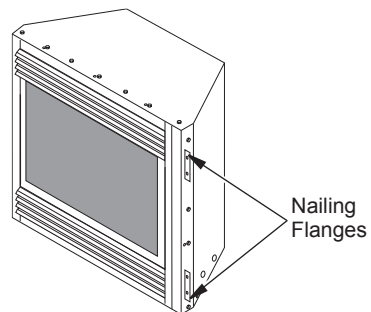

Figure 22 - Location of Nailing Flanges
8. Break off nailing flanges on fireplace (see Figure 22) with hammer or pliers.